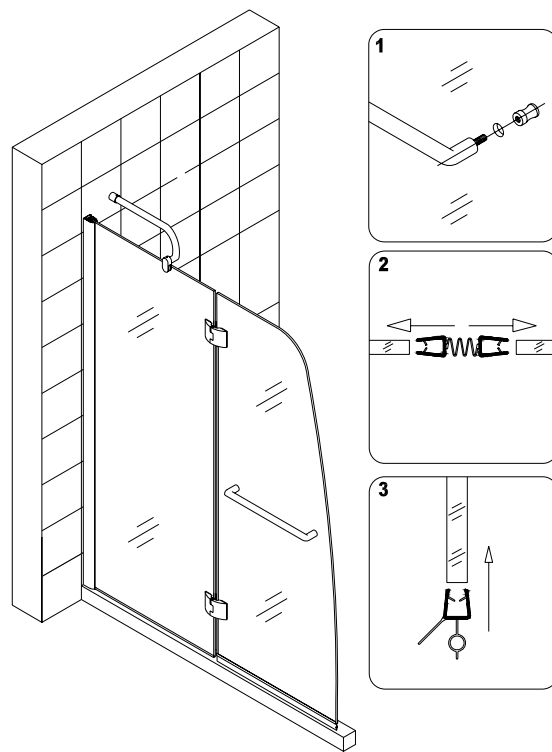

Fig 6
5. Install the **handle (06)** and the **bottom anti-water strip (12)** to the glass door and push on the **connected anti-water strip (11)** to seal between the glass door and the stationary glass (fig 6).